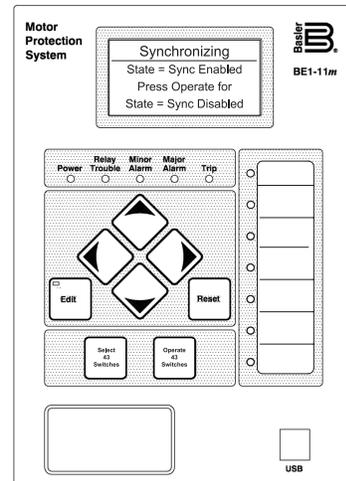

Figure 8 - BEI-11g Enhanced Front Panel HMI
Physical inputs and outputs on the BEI-11g have been expanded to seven physical inputs and eight physical outputs plus one alarm output contact. The front panel HMI of the BEI-11g incorporates users' defined LEDs and labels seen on the right hand side of the front panel shown in Figure 8. Virtual switch (43) buttons were added to the front panel HMI of the BEI-11g for easier access along with access through BESTCOMSPPlus. Figure